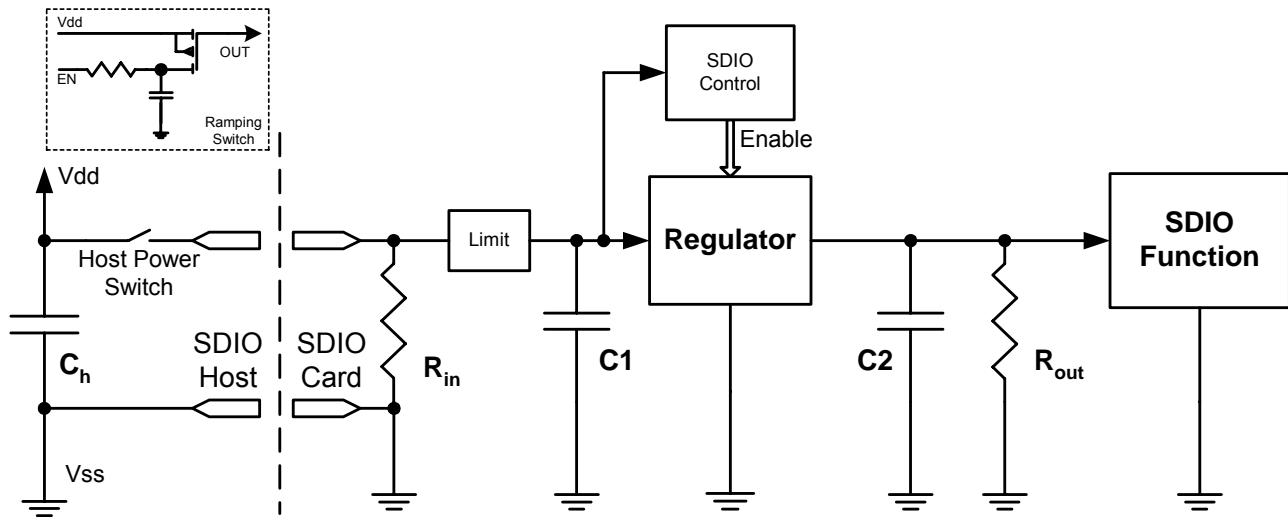

Figure 15-1 SDIO Inrush Current
1. The maximum initial load (i.e. upon power-up) that can be placed in an SDIO card is 10 μ F in parallel with 220 Ω . The 10 μ F capacitance represents all bypass capacitor(s) directly connected across the V_{dd} lines in the card common area or function(s) plus any capacitive effects visible through any regulators in the card that are enabled at power-up. This is represented in Figure 15-1 by C1. The 220 Ω resistance represents the maximum current (15 mA) drawn by the card during connect. This is shown as R_{in} .
3. The hosts' V_{dd} power lines shall be able to withstand a hot insertion of the above loads without causing an upset of the hosts' operation. The host may achieve this tolerance by many methods. For example, a soft-start reduces the inrush current to the SDIO card on power-up. Additionally, a large capacitor on the V_{dd} lines (shown as Ch in Figure 15-1) can supply the needed inrush current. Standard bypass methods should be used to minimize inductance and resistance between the bypass capacitors and the connectors to reduce droop. The bypass capacitors themselves should have a low dissipation factor to allow decoupling at higher frequencies.
2. Maximum capacitive load changes shall not exceed 10 μ F when an internal regulator is enabled or disabled. This is shown as C2 in Figure 15-1.
Figure 15-1 Shows the various components that contribute to inrush current. In this diagram, the host has an optional power switch so that the card is inserted into a socket without power applied (i.e. a cold socket). The initial load is defined by C_1 and R_{in} where C_1 is the sum of all capacitance from V_{dd} to ground on the input side of the regulator and R_{in} represents the DC load of the regulator and the SDIO control circuits. The Host can control the timing of the application of power to the SDIO card by using the optional host power switch. If the host does not include a power switch, then the inrush current will begin to flow once the card is inserted and contact is made to the V_{dd} and V_{ss} pins. In this diagram, C_1 has a maximum value of 10 μ F and the R_{in} equivalent resistance is 220 Ω minimum. The host shall be designed so that the insertion of a SDIO card that meets the input capacitance and resistance values defined above shall not be damaged or have its operation disrupted (i.e. a reset). On card insertion or enabling of the host power switch, charge will rapidly flow from the charge host capacitor (C_H) to the discharged input capacitor on the card (C_1). The charge will transfer and the voltage on the host V_{dd} line will drop in proportion to the ratio of C_H to C_1 . If $C_H = C_1$, the resulting V_{dd} droop will be 50%. If the host must limit the V_{dd} droop to 10%, then C_H should be 10 times the value of C_1 (100 μ F). Alternately, the host may limit the inrush current by using a semiconductor switch such as a FET for the host power switch. This is shown in Figure 15-1 as the ramping switch. By using a RC network to drive the FET gate, the V_{dd} applied to the card will be a ramp, rather than a near-instantaneous step. This reduced rise time will greatly reduce the inrush current, allowing a smaller C_H value to be used.
If the design of a SDIO card requires a input capacitance (C_1) larger than the 10 μ F maximum value, then some sort of limit is required as shown as the Limit block in Figure 15-1. This limit function reduces the inrush current to a value equal to or less than the current inrush of a 10 μ F capacitor. This limit device could be a ramping switch similar to the one shown for the host.
Figure 15-1 also illustrates the use of a secondary voltage regulator (or switch) to power the SDIO function. Since the enabling of the power to the function may cause a secondary current surge to charge C_2 and since the host may not have control of the timing of this secondary surge, it is entirely the responsibility of the SDIO card to limit the effect on the host V_{dd} due to these secondary surges. Again, a ramping type switch is a possible solution as is a "soft start" regulator. The actual design is left to the SDIO card maker.